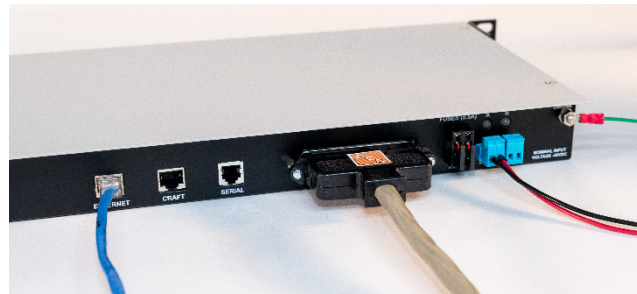

Figure 5 - Typical WS2200 with 50-pin cable connection
7. Connect Amp 50 pin alarm connector as required. See technical manual for pinout and associated information. A completed installation is shown in Figure 5.